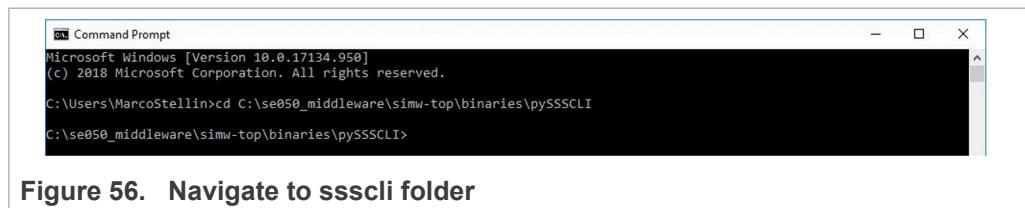

Figure 56. Navigate to ssscli folder
1. Open a command prompt and go to the `C:\se050_middleware\simw-top\binaries\pySSSCLI` as shown in Figure 56: